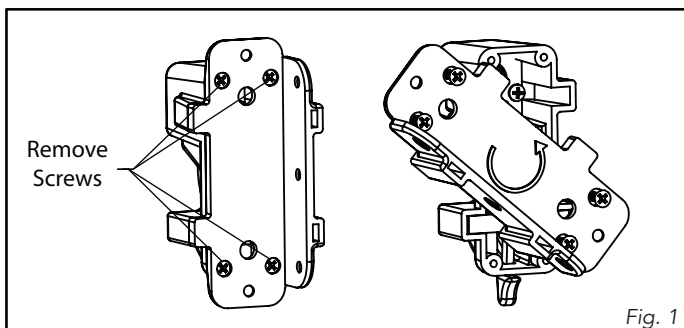

Fig. 1
1. The KLX-P1 Gate Latch is designed to fit both right-hand and left-hand applications. To conform to your application the latch assembly may need to be reversed. To reverse the latch assembly, remove the four screws holding the mounting base, carefully lift and rotate the mounting base, and reinstall the four screws (Fig. 1).